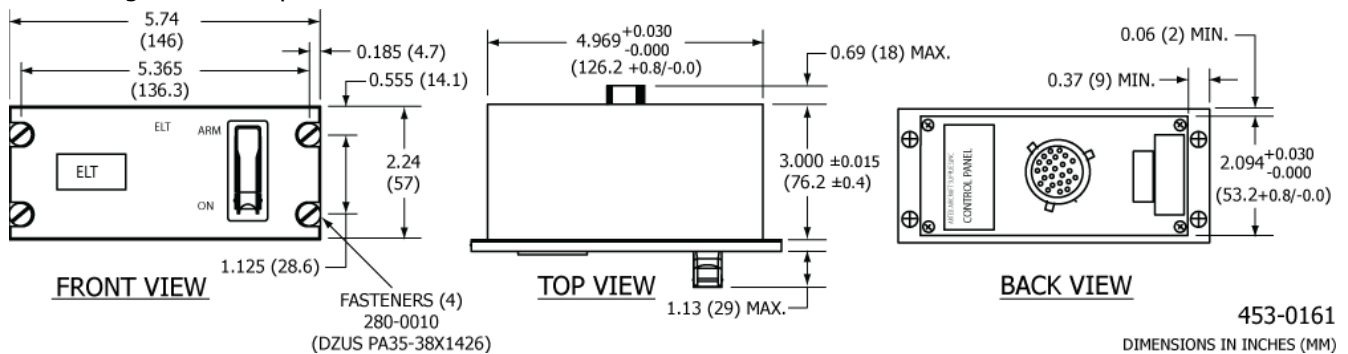

Figure 32 Cockpit Remote Switch Panel Outline and Dimensions
- 2) The panel assembly requires a space approximately 5.74 x 2.24 in. (146 x 57 mm) on the panel or console surface, with a depth of 3.00 in. (77 mm), excluding room for the harness connection. See Figure 32 Cockpit Remote Switch Panel Outline and Dimensions.
- 1) Provide an opening in the instrument panel or other mounting location which meets the dimensional requirements shown in Figure 32 Cockpit Remote Switch Panel Outline and Dimensions on page 79.
- 2) Mount Dzus rails on the sides of the opening, if necessary. See Figure 32 Cockpit Remote Switch Panel Outline and Dimensions on page 79 for rail center line dimensions.